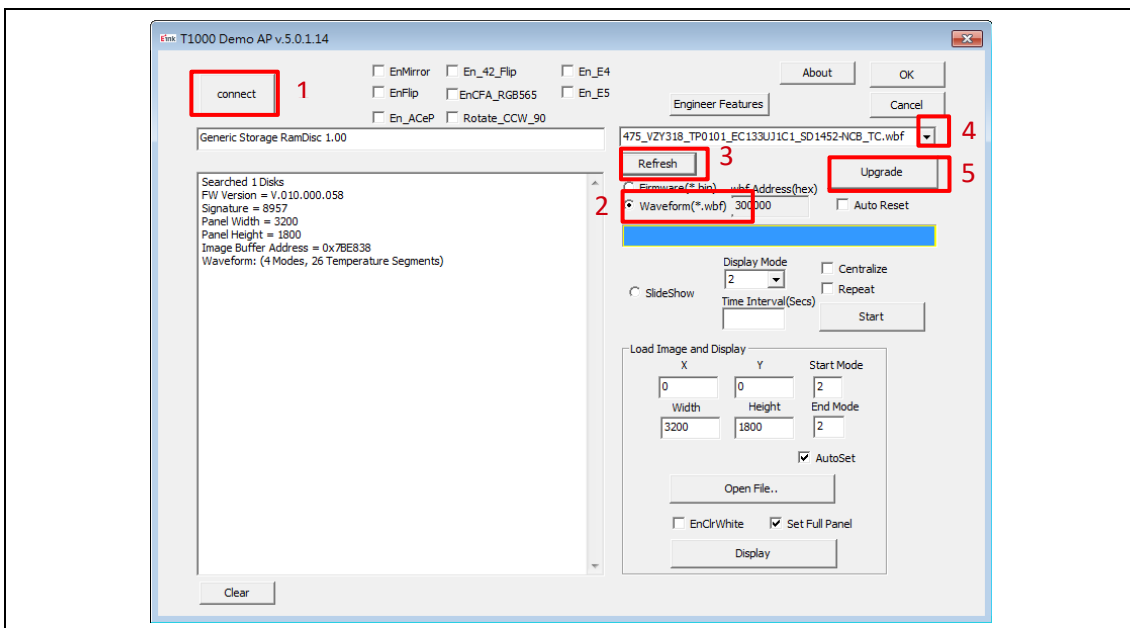

Figure 3.5
(3) How to upgrade waveform
- Execute T1000 Demo AP (refer to Figure 3.5)